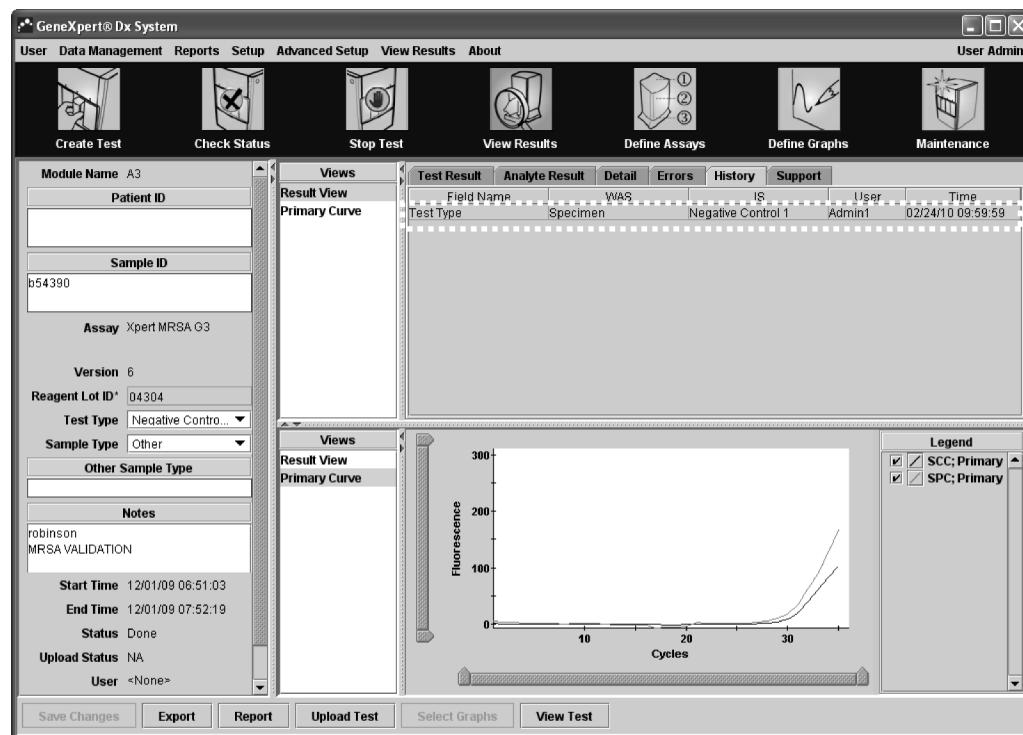

Figure 5-38. History tab window showing change from Specimen to Negative Control test type
5. Click **Yes** to save the changes and proceed. The software tracks the change history (Figure 5-38). If you are a Detail user or the administrator, you can view the changes in the History tab (Section 5.10.3.4).